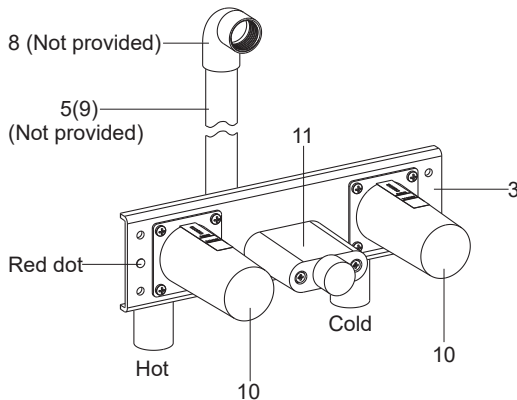

Fig. 2
As **Fig. 2** shown, ensure the showerhead outlet tube(5 or 9) is connected correctly with G1/2" female ell(8).
Select a location in the vertical wall to install the inlet assembly(3) according to rough-in dimensions. As **Fig. 2** shown, make sure the protectors(10, 11) face front and the inlet assembly with red dot is on the left side. **NOTE:** Ensure the centerline of the inlet assembly is vertical to the wall, the upper surfaces of the protectors is horizontal.